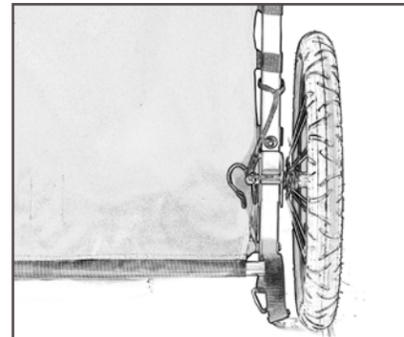

Figure 10
3. Slide the stub axle completely through the hole in the bracket so the wheel is in the use position (Fig. 10).